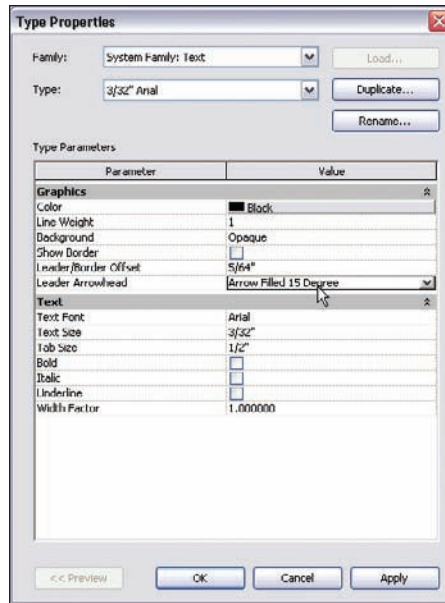

FIGURE 5.51 Changing the leader arrowhead
1. On the Text panel of the Annotate tab, you will see a small arrow pointing down and to the right, as shown in Figure 5.51. Click it.
2. Change the Leader Arrowhead parameter to Arrow Filled 15 Degree, as shown in Figure 5.51.